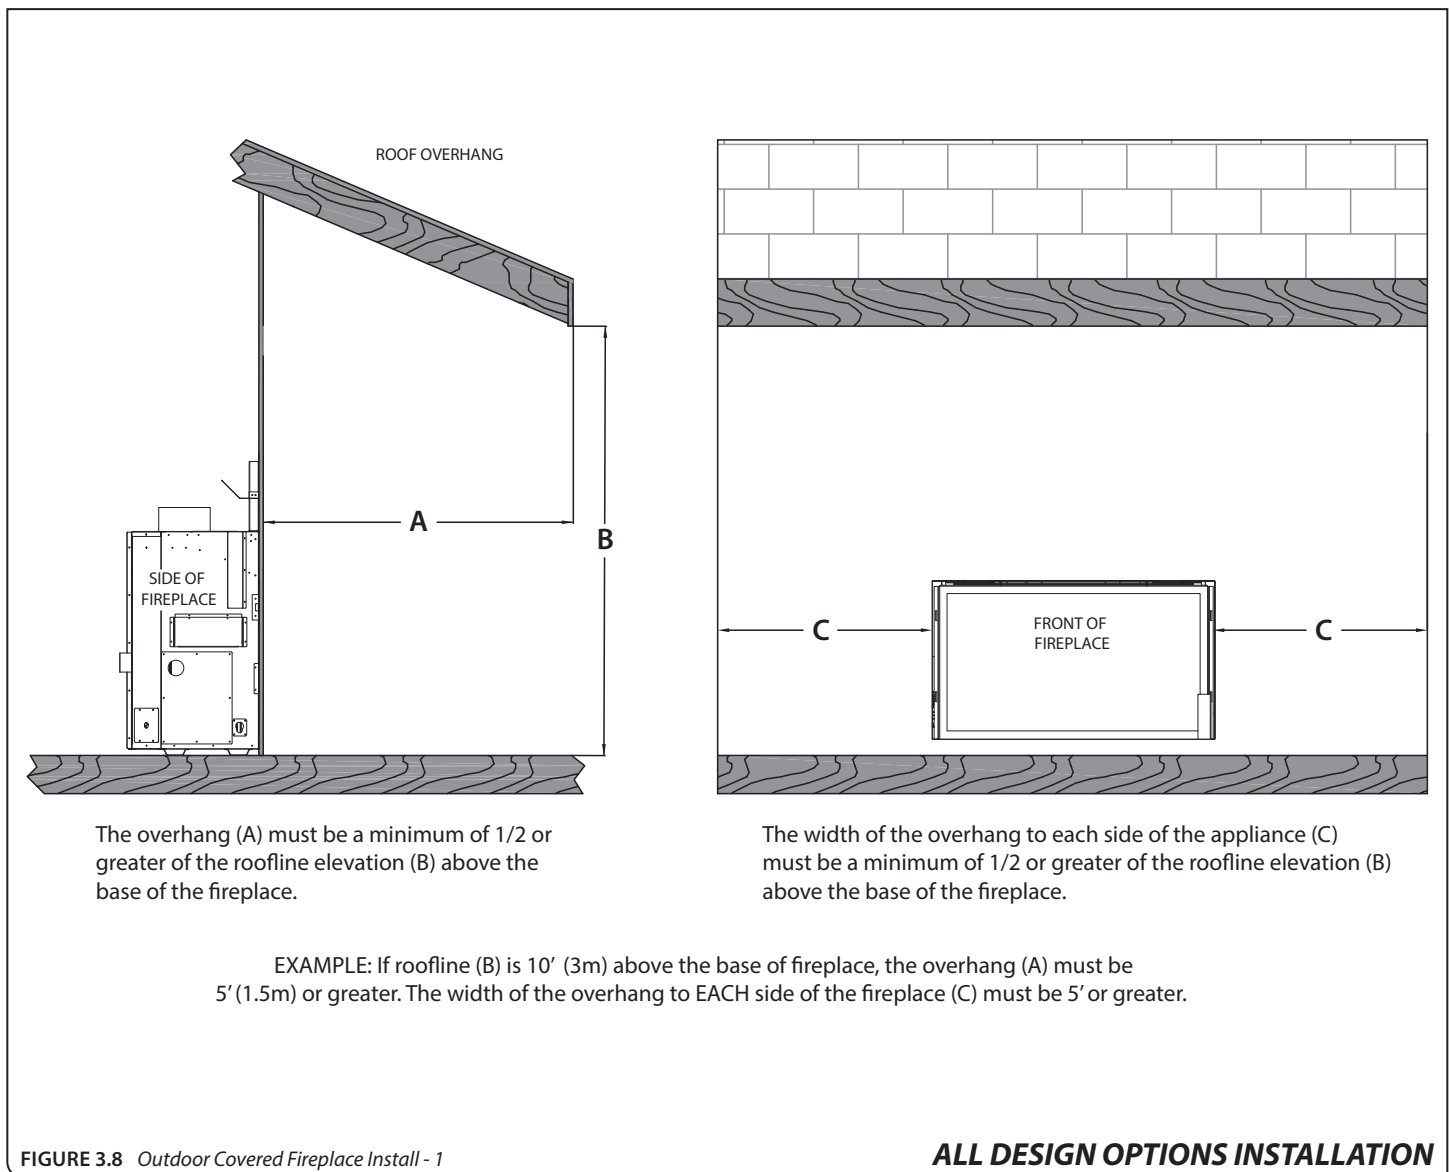

FIGURE 3.8 Outdoor Covered Fireplace Install - 1
- Calculate your roof overhang dimensions following **FIGURE 3.8** below.